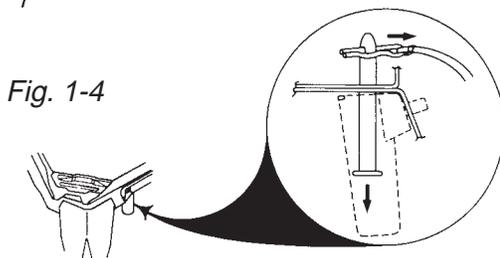

Fig. 1-4
NOTE: To prevent the two (2) shipping pins from falling on the floor, two (2) plastic holders are attached to the base. (Fig. 1-4) When the cotter pins are removed, the shipping pins fall into these holders. These pins may be left in the holder cups. (Fig. 1-4, INSET) They will not interfere with the operation of the washer.